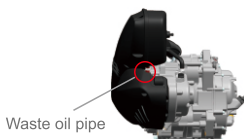

Figure 1
- a. Open the right cover of Figure 1 and remove the PKE fuse.
As shown in Figure 1, check the waste oil pipe behind the air cleaner box for dirt or water. If you see dirt or water, remove the hose from the snap ring for cleaning, and then reinstall the hose. Note: If there is dirt or water in the inspection hose, be sure to check whether there is too much dirt or damage in the air filter element, and replace it with a new one if necessary.